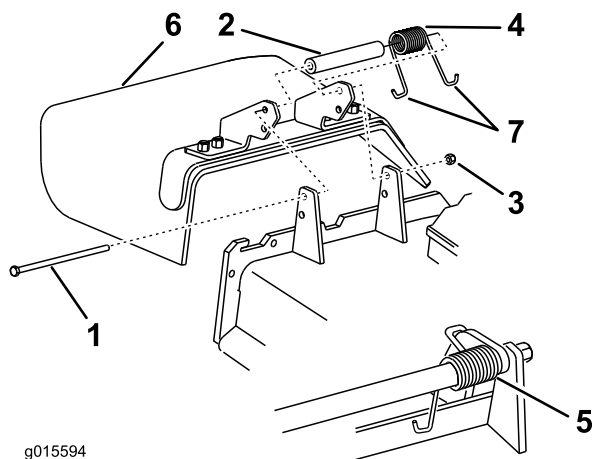

Figure 104
1. Remove the locknut, bolt, spring and spacer holding the deflector to the pivot brackets (Figure 104). Remove damaged or worn grass deflector.
Note: Make sure one **J** end of spring is installed behind deck edge before installing the bolt as shown in Figure 104.
3. Install bolt and nut. Place one **J** hook end of spring around grass deflector (Figure 104).